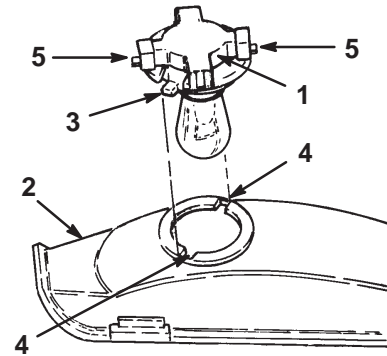

Figure 31
8. Rotate the bulb holder 1/4 turn counterclockwise and remove it from the reflector (Fig. 31).
4. Align the tabs on the bulb holder (Fig. 31) with the slots in the reflector, insert the bulb holder into the reflector, and rotate it 1/4 turn clockwise until it stops.